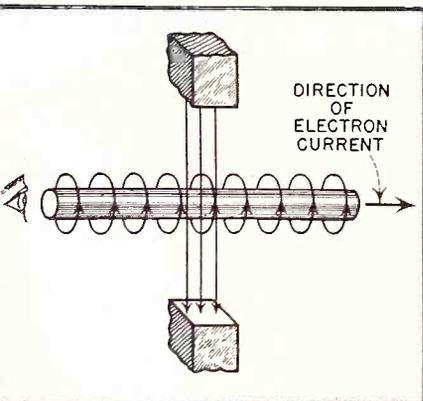
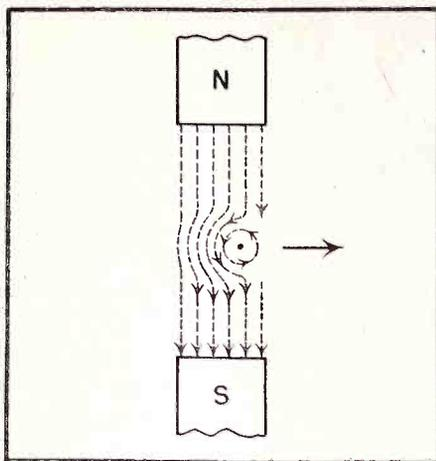

Fig. 5. Direction of generated magnetic field for current shown.
Fig. 6. Magnetic force on conductor
1. Observe Fig. 5. Under the left hand rule the current moving away from the observer generates a magnetic field moving counterclockwise.
3. Look again at Fig. 5. The picture the observer's eye sees is shown in the side view Fig. 6. Now then, the lines of force of the magnet join certain lines of force of the conductor. This occurs when the lines are in conjunction. (Going the same way.) Certain other lines on the other side of the conductor oppose lines of the magnet, causing cancellation of force there. The result, then, is that the conductor itself (or the electron beam itself, if used) is physically pushed by the co-ordinating lines of